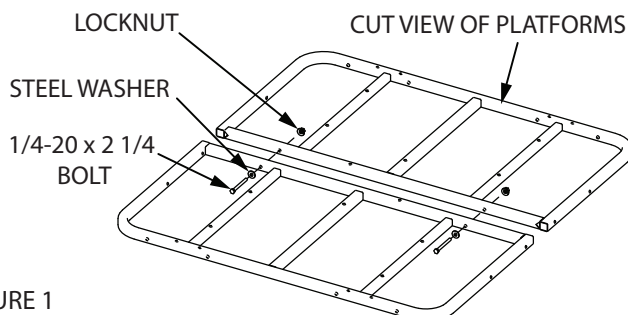

FIGURE 1
1. Attach (2) platforms (TP100) together using (2) provided 1/4-20 x 2-1/4" bolts, locknuts and steel washers. **SEE FIGURE 1. DO NOT tighten all nut & bolt assemblies completely!**